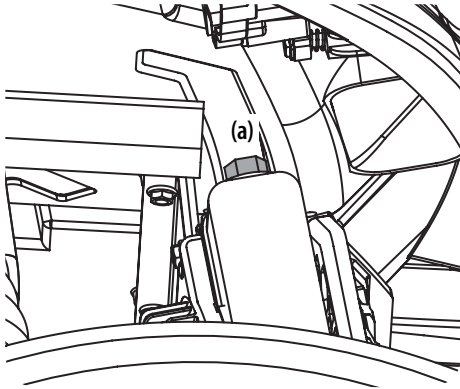

Figure 5-25
2. Remove the bleeder screw (a) on the radiator, fill the radiator and when fluid begins to come out of the bleeder screw hole, replace the bleeder screw (a). The bleeder screw (a) can be accessed via the front right wheel well. See Figure 5-25.